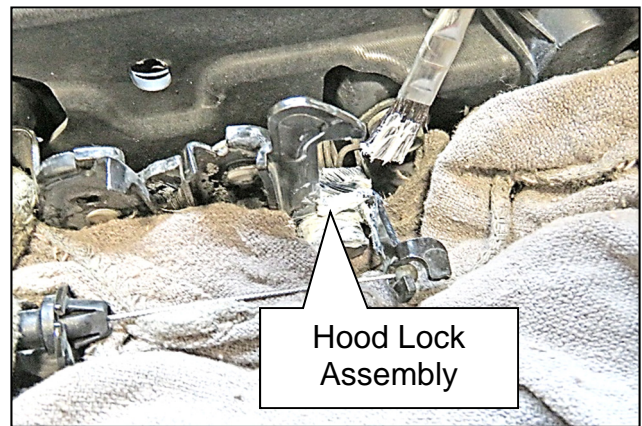

Figure 11
14. Apply non-aerosol white lithium grease to the Hood Lock Assembly (Figure 11).